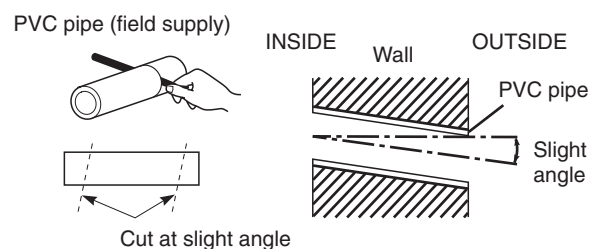

Fig. 3-51
- (9) Measure the thickness of the wall from the inside to the outside and cut PVC pipe at a slight angle to fit. Insert the PVC pipe in the wall. (Fig. 3-51)